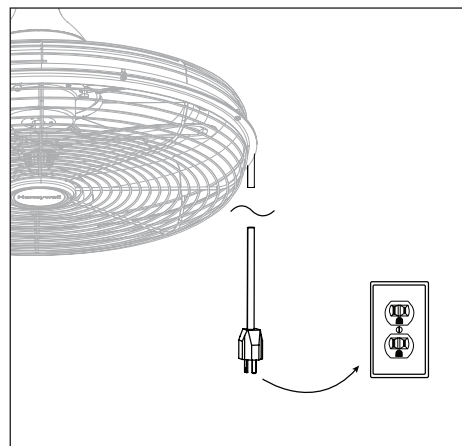

Figure 1.5
5. Plug the fan's power cord into a 120 V 60Hz grounded outlet (Figure 1.5).